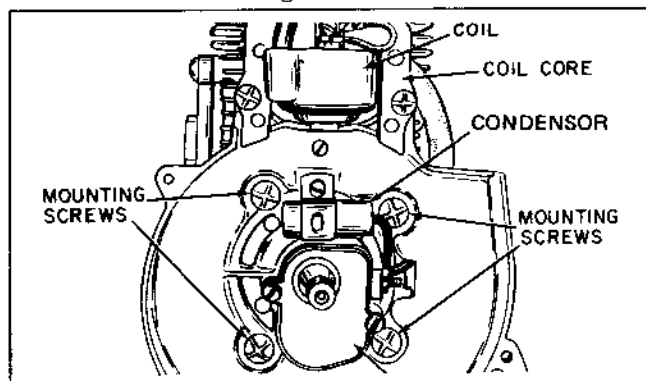
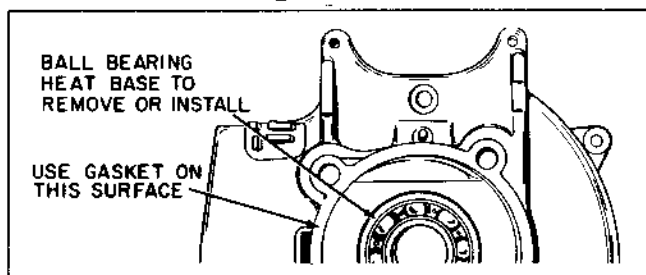

Figure 2-4
Figure 2-5
Both units are secured by four (4) screws as shown in Figure 2-4. A gasket is placed between the shroud base and the cylinder block assembly, Figure 2-5.